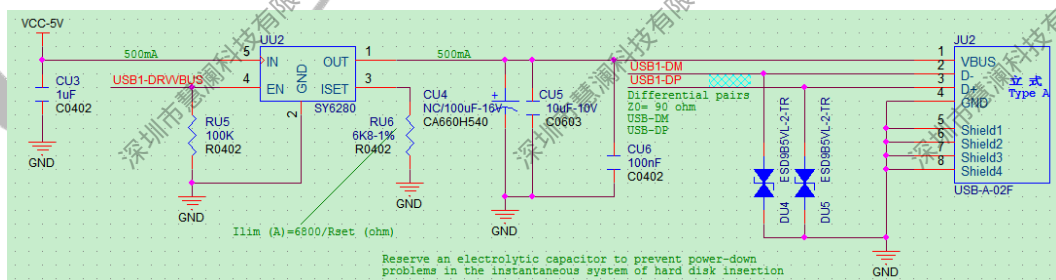

Figure 2-29 USB1 Power Design
- Because the front end contains a 5 V boost IC, the power supply of USB1 comes from the system VCC-5V, and only one current-limiting switch needs to be added. As shown in Figure 2-29.